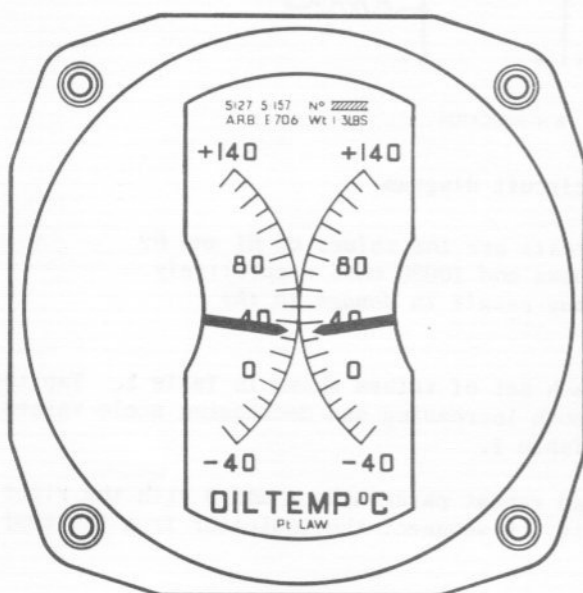

Fig.1 Indicator, Type S217.5.157
1. The indicator, Type S127.5.157 (fig.1) is calibrated in deg.C from -40 to 140 on each of the two scales.